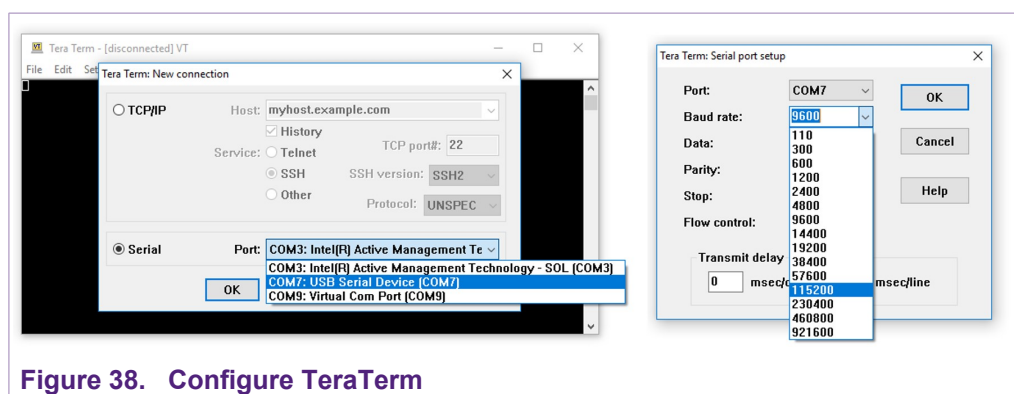

Figure 38. Configure TeraTerm
2. Open TeraTerm. Click **Serial** option and select from the drop down list the COM port number assigned to your FRDM-K64F. Then go to Setup > Serial Port and configure the terminal to 115200 baud rate, 8 data bits, no parity and 1 stop bit and click OK as shown in Figure 38: